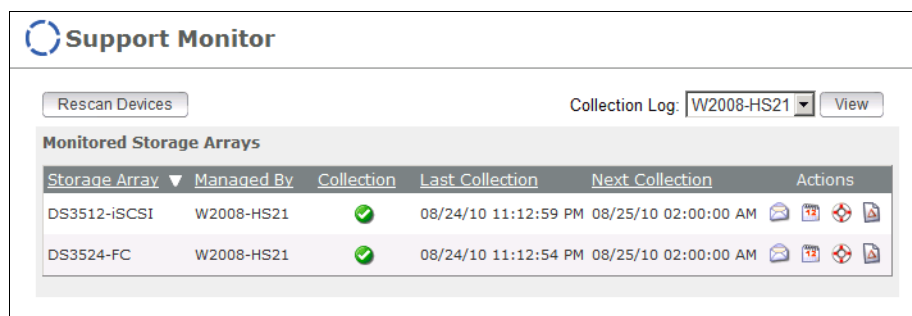

Figure 14-22 Support Monitor
4. Click **Monitors** → **Support Monitor** in the navigation bar to display the Support Monitor window as shown in Figure 14-22.